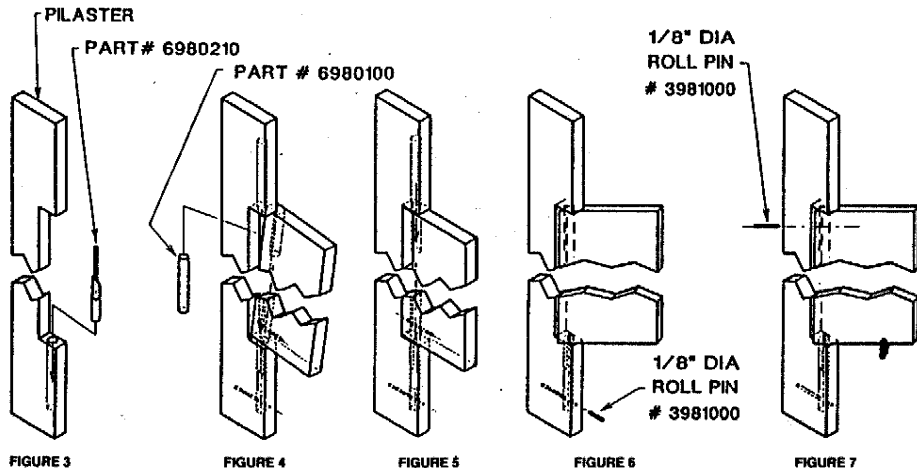
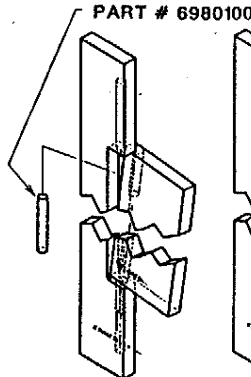
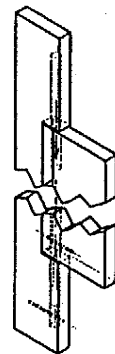

FIGURE 3
FIGURE 4
FIGURE 5
b. Insert bottom integral hinge pin side, part #6980210, into pilaster. See figure 3. Set door over bottom hinge. Hold door at an in or out tilt. Insert top integral hinge part #6980100 into hole at top of pilaster. See figure 4. Align door and let top pin fall into hole at top of door. See figure 5. Door is hung.